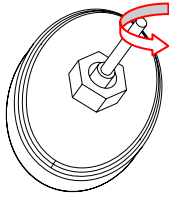

Fig. 19A
*Locate:* Gas Grill Lid, (1) Heat Indicator, (1) Lid Handle, Gas Grill Lid Handle Heat Shield, (2) M6x15 bolts
*Procedure:* Unscrew the nut and washer from (1) Heat Indicator as shown as Fig. 19A.